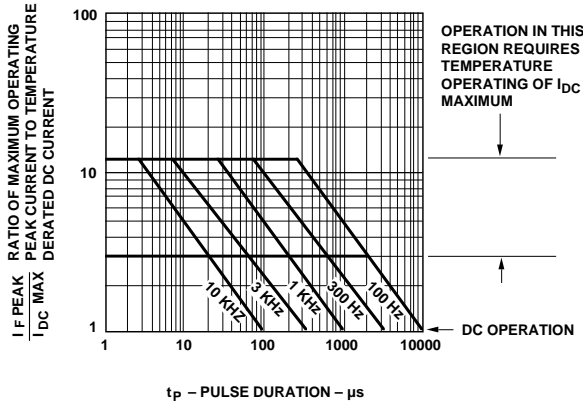

Figure 7. Maximum Tolerable Peak Current vs. Pulse Duration – Green.
- See Figure 7 to establish pulsed conditions.